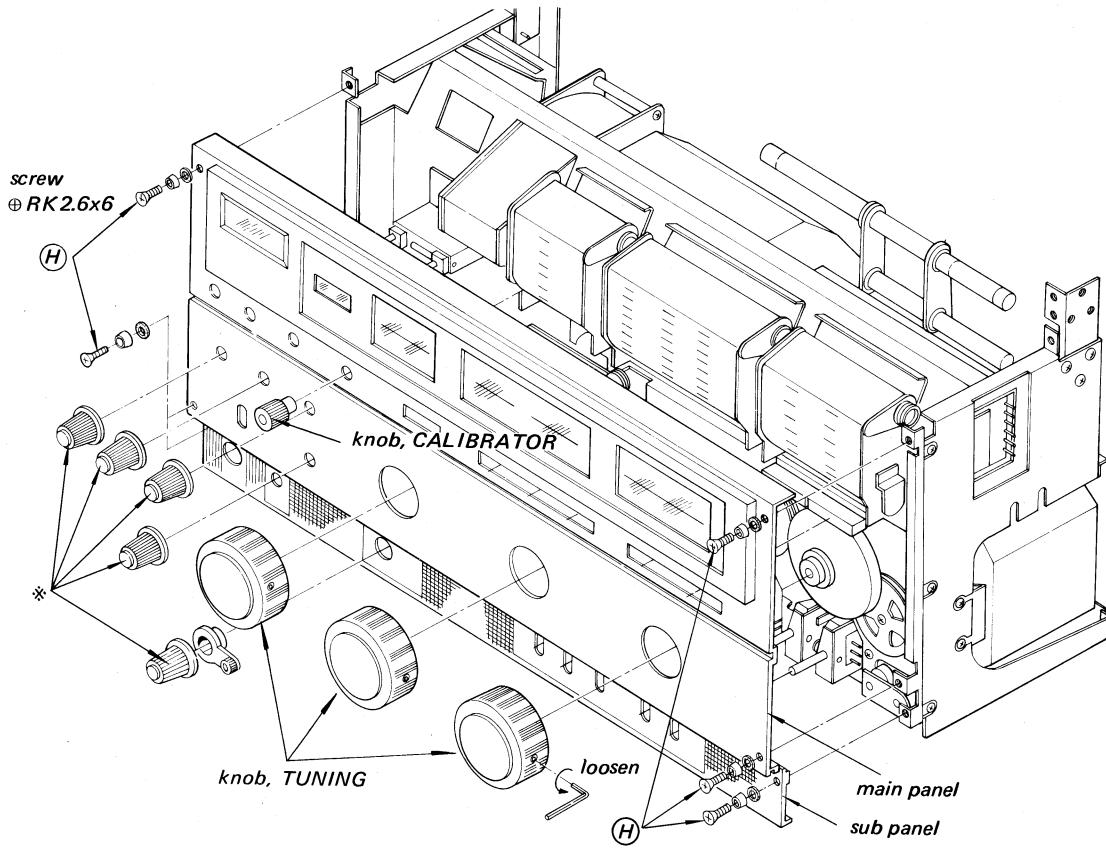

Fig. 2-2.
2. Pull off the five control knobs marked * in Fig. 2-2.
3. Remove the six screws marked (H) and remove the main panel and the sub-panel.